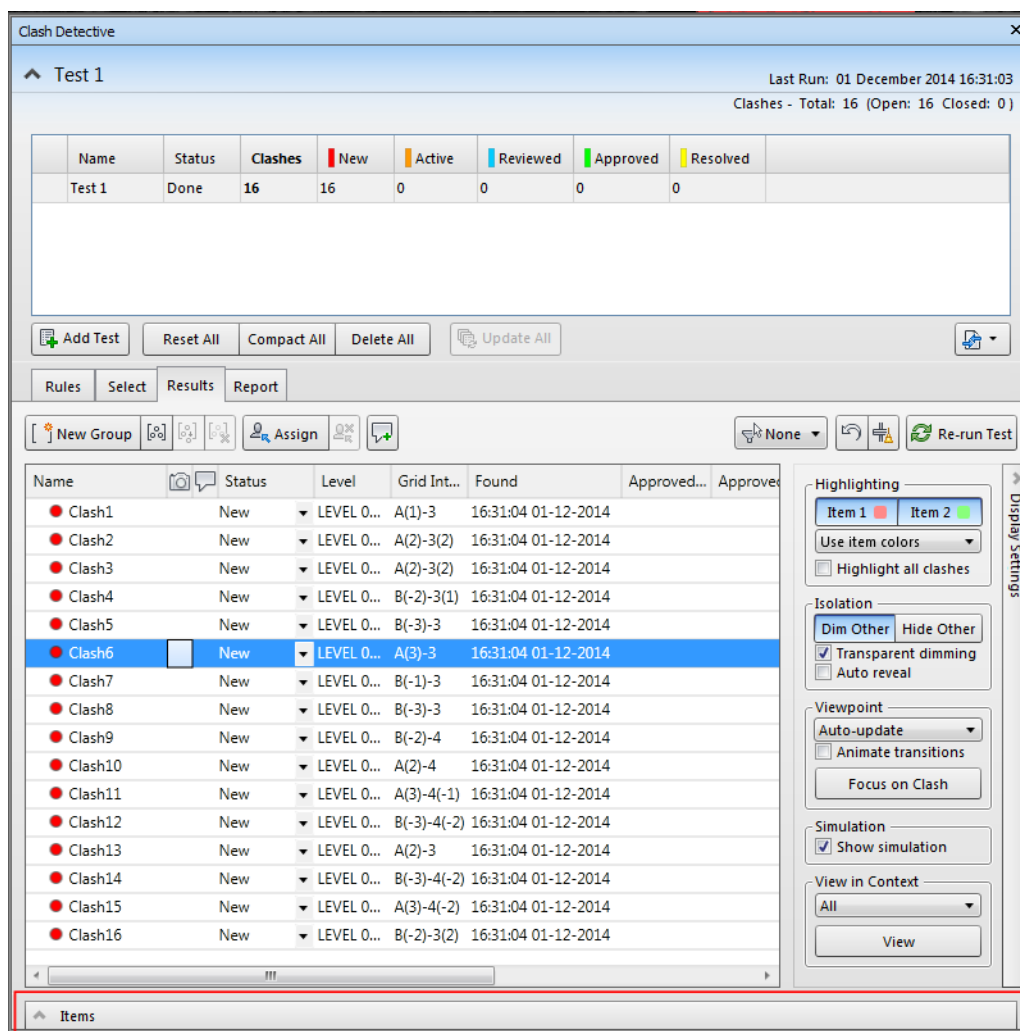

Fig. 3.1 – Items Menu of Clash Detective
57. Expand the Items menu, as shown in Fig.3.1